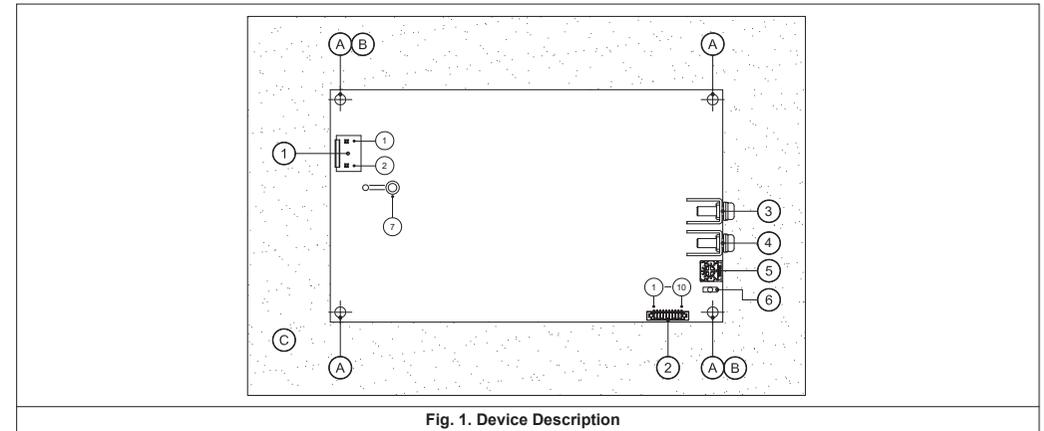

Fig. 1. Device Description
- For Protection against shock to Class I with PE (protection earth) and Class II with or without FG (functional ground) product, the two mounting holes (marked B in Fig. 1) need to be connected together to the system's protective earth or functional ground. Pollution degree and EMC performance with different connections please refer to product datasheet.
Refer to Fig. 1.: